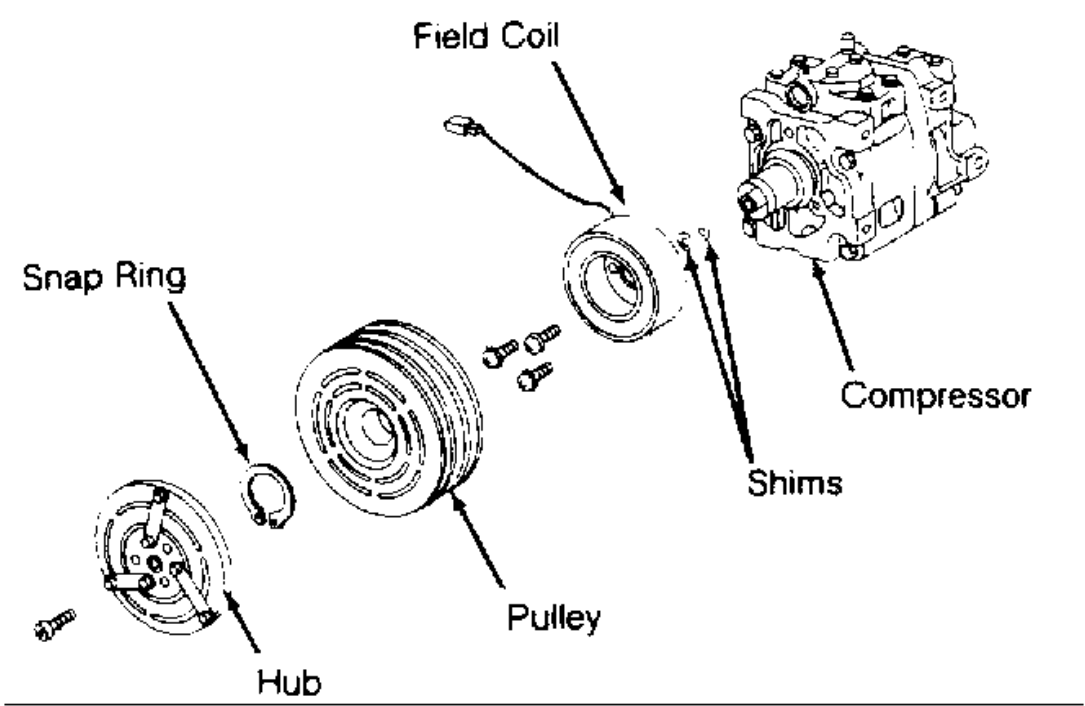

Fig. 12: Exploded View of Rotary Vane Compressor (Matsushita)
2. Remove snap ring. Using a puller, remove pulley. Disconnect electrical leads from field coil. Remove 3 field coil mounting bolts. Remove field coil. See Fig. 12 . To install, reverse removal procedure.
- 2. Remove shims from pressure plate. Remove snap ring from compressor. Tap rotor off shaft with plastic hammer. Disconnect stator wire from housing. Remove snap ring from inside stator. Remove stator. See Fig. 12 .